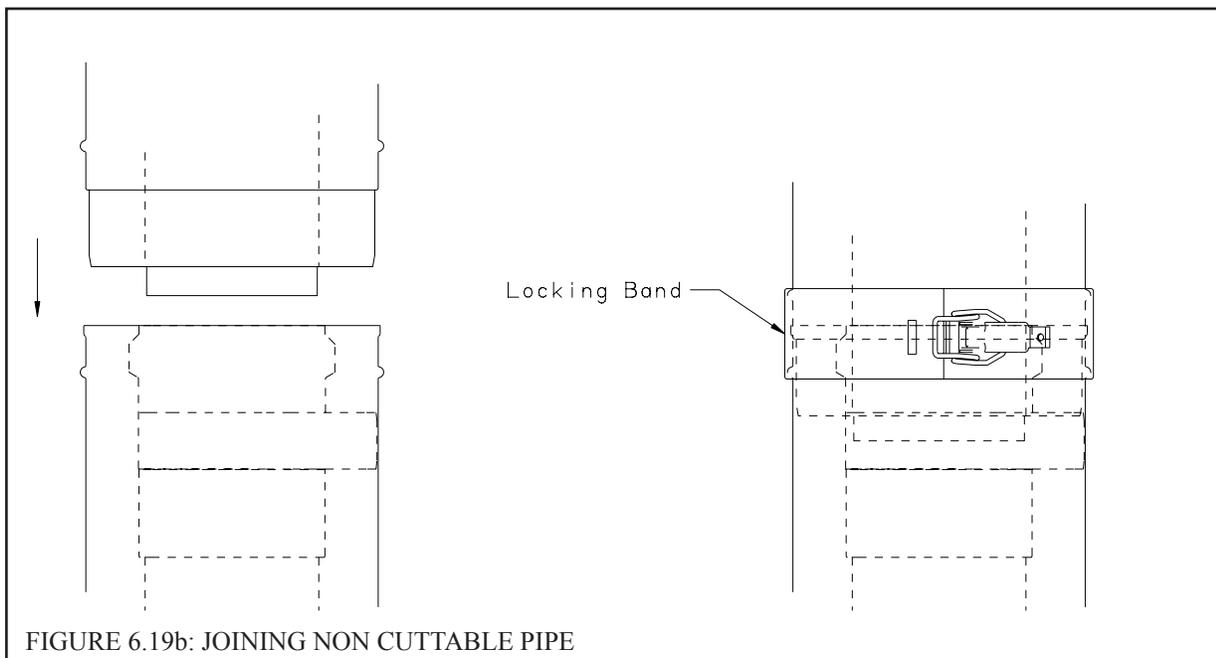

FIGURE 6.19b: JOINING NON CUTTABLE PIPE
- b) Push the male end of the first fitting into the boiler collar until it bottoms out. The male end of cuttable sections should go 1" into the collar until the insertion mark (made in Step 2d above) is covered. On other fittings, the bead on the male pipe will bottom out on the collar (Figure 6.19b).
- d) Use locking bands (provided with all fittings) to secure non-cuttable pipe, as well as fittings, to the boiler collar (Figure 6.19b).